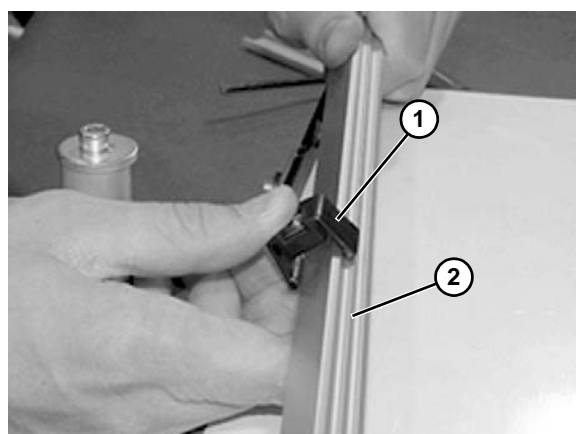

**Figure 34**
3. Loosen screw (**Figure 34, item 1**) on end of shaft (**Figure 34, item 2**) to remove clip (**Figure 35, item 1**).
5. Reassemble clip (**Figure 37, item 1**) and attach to shaft (**Figure 37, item 2**). Tighten screw (**Figure 34, item 1**) on end of shaft.